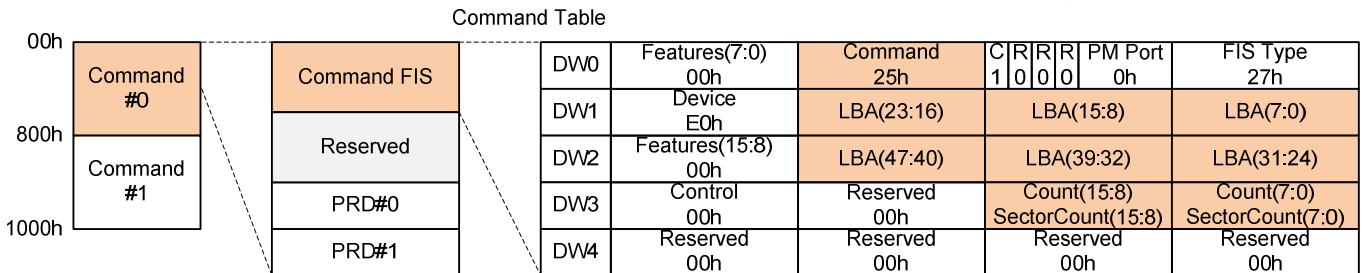

Figure 3-12 Set Command FIS for Read DMA Ext Command
- 2) Follow Step 2) – 8) of Write DMA Ext Command to prepare command/data and send command. 5-Dword Command FIS for Read DMA Ext is shown in Figure 3-12.